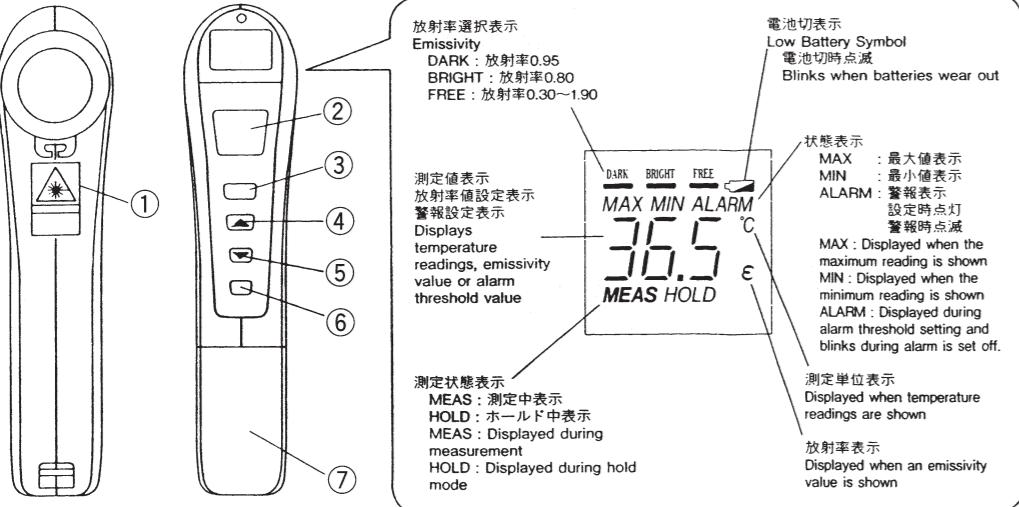

Fig. 2
- Always put the cap back on the measuring window after measurement to prevent foreign object from penetrating inside the window.(Fig.2)